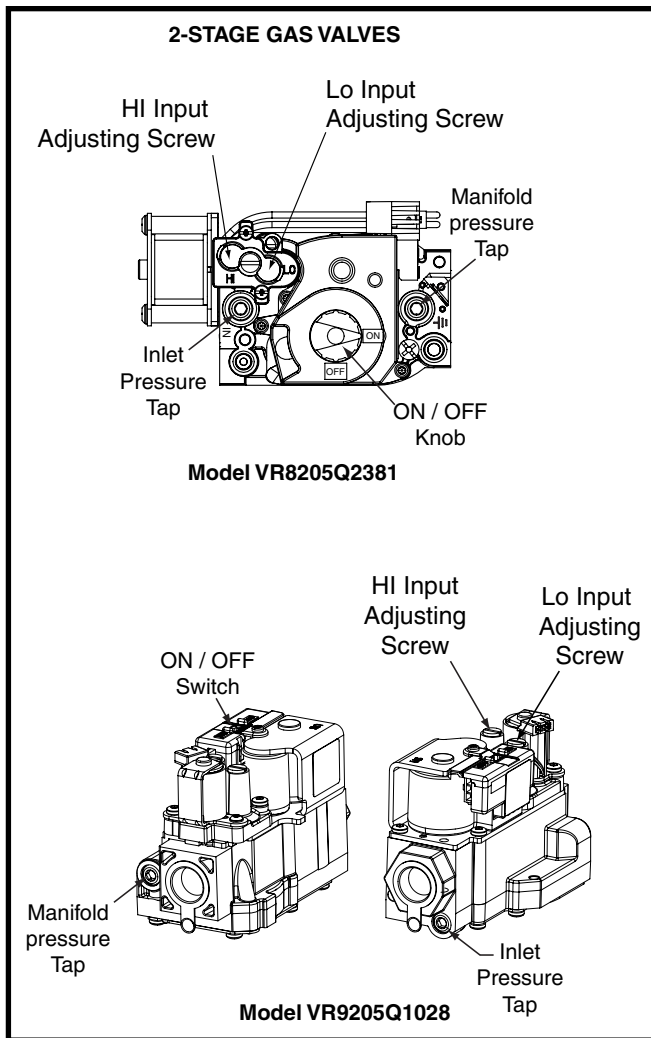

Figure 25. HI & LO Input Adjusting Screws
- c. Using an Allen wrench, turn the the LO Input Adjusting Screw on the LO side of the regulator to adjust the reduced input setting or turn the HI Input Adjusting Screw on the side of the regulator to adjust the full input setting. See Figure 25, \(page 28\). **NOTE:** Turning the adjusting screw clockwise increases the pressure and counterclockwise reduces the pressure.